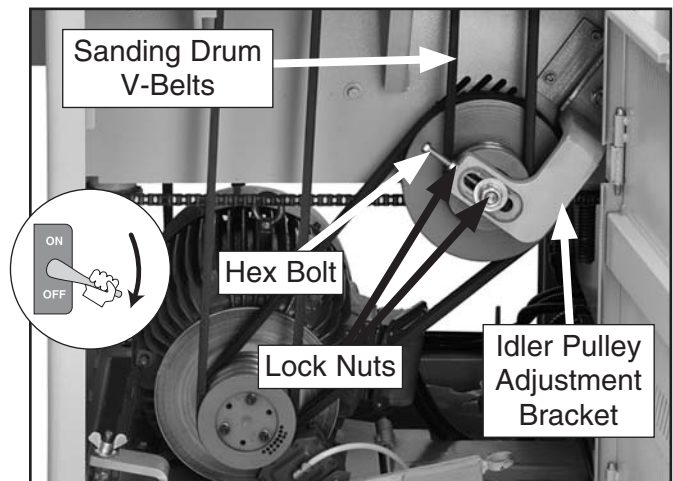

Figure 69. Sanding drum V-belt adjustment locations.
2. Loosen the lock nuts on the idler pulley adjustment bracket (see **Figure 69**).
- Loosen the lock nuts on the idler pulley adjustment bracket (see **Figure 69** on **Page 51**).